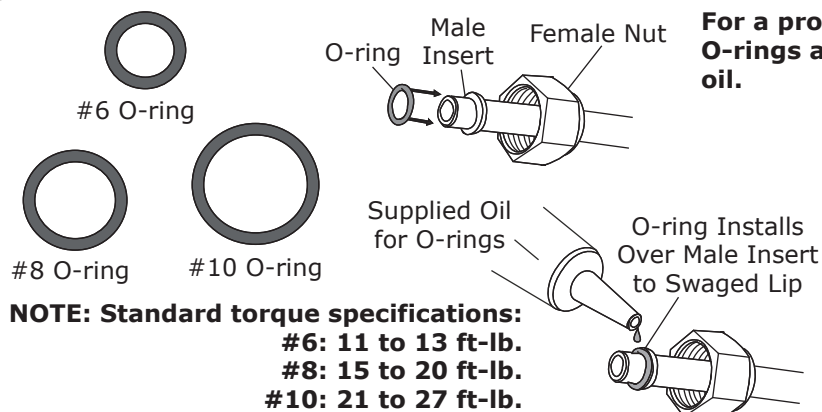
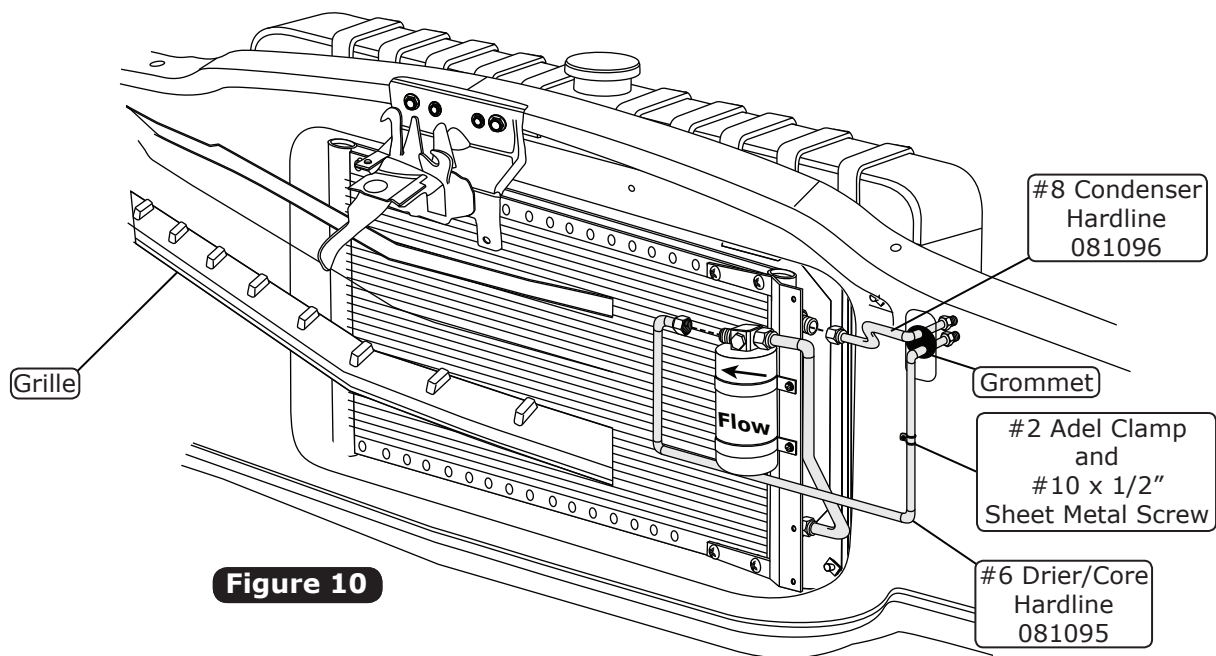

Figure 5
Figure 10
1. Lubricate (2) #6 O-rings, and install (1) onto each end of the #6 drier/condenser hardline as shown in Figure 5, below.
2. Install the #6 drier/condenser hardline onto the #6 condenser fitting, and then onto the drier (See Figure 4, below). Tighten fittings as shown in Figure 5, below.
1. Lubricate a #6 and #8 O-ring, and install them onto the #6 drier/core hardline and #8 condenser hardline as shown in Figure 5, Page 8.
2. Install the #6 drier/core hardline and the #8 condenser hardline as shown in Figure 10, below. Tighten fittings as shown in Figure 5, Page 8.
3. Secure the #6 drier/core hardline onto the core support with a #2 Adel clamp and a #10 x 1/2" sheet metal screw as shown in Figure 10, below.